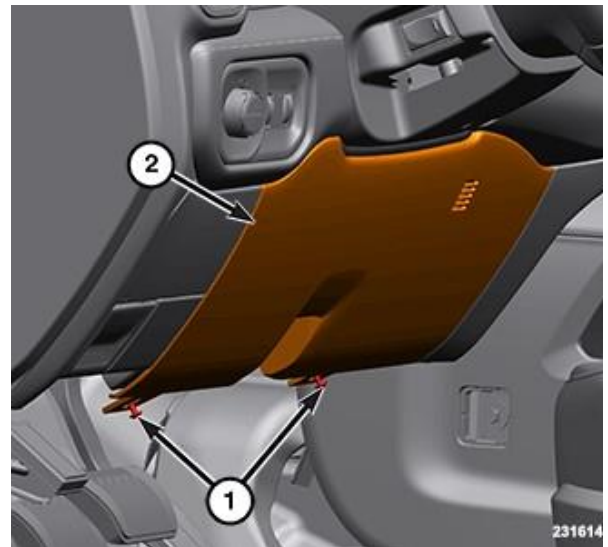

Figure 1 – Steering Column Opening Cover
1. Remove the two screws (1) along the bottom edge of the lower steering column opening cover then lower the cover (2) to gain access to the interior Power Distribution Center (PDC) (Figure 1).
3. Install the lower steering column cover (2) then install and tighten the two screws (1) (Figure 1).